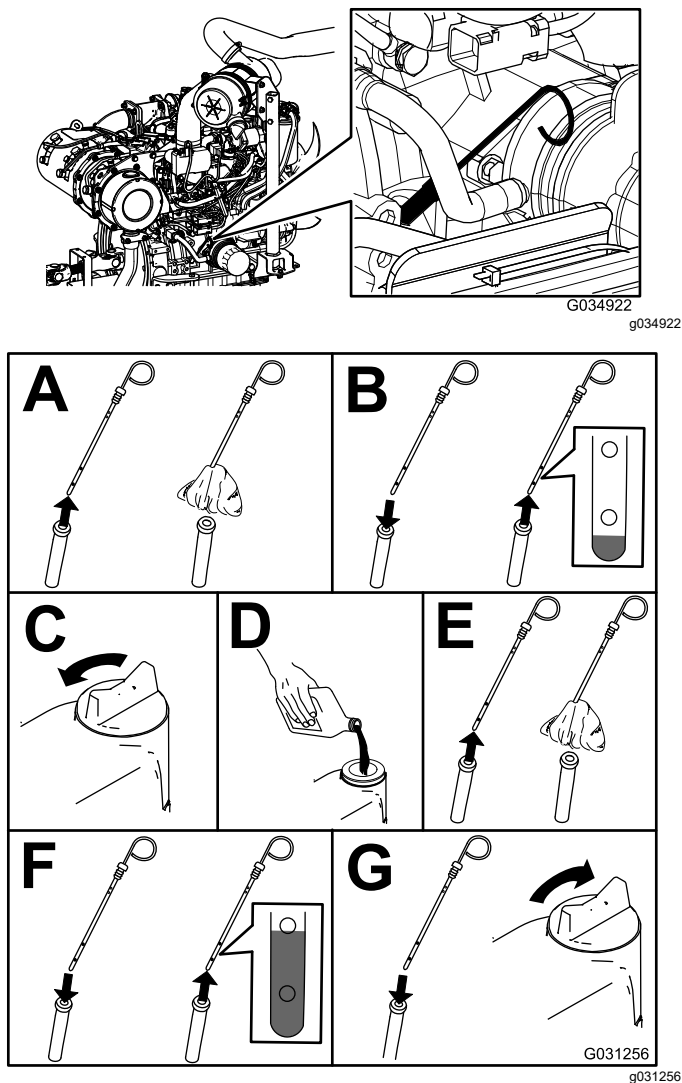

Figure 112
3. Check the level of the engine oil (Figure 112).